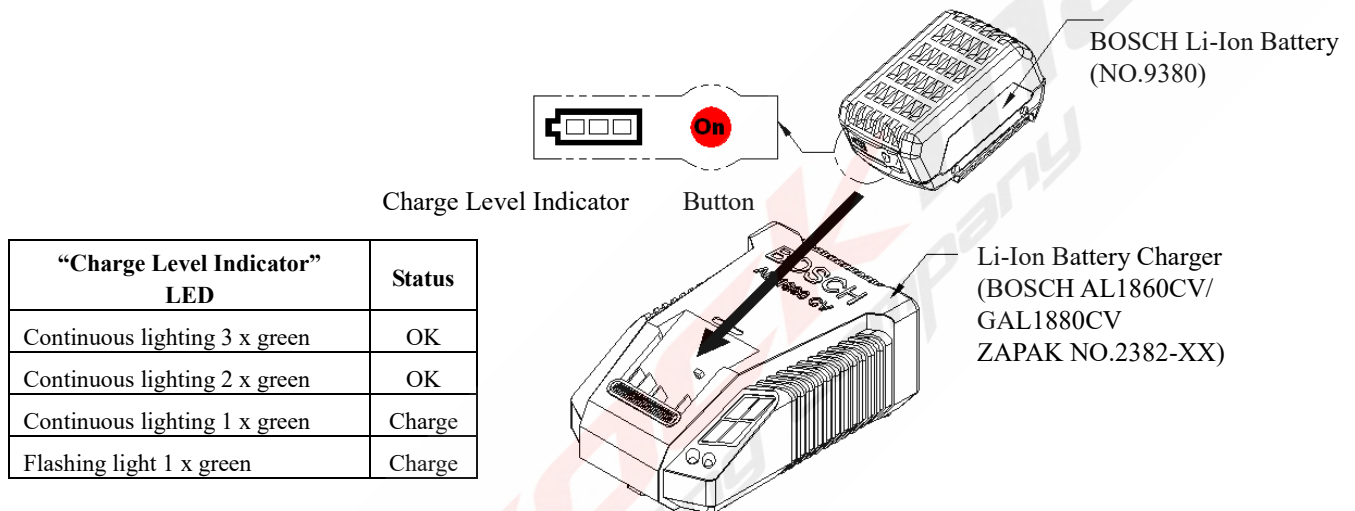

FIGURE 4. Illustration of Inserting Battery onto Charger
Refer to FIGURE 4 to insert the battery into charger (Please refer and follow the safety instruction and operation of the battery and charger user manual.)
- \* Each BOSCH Li-Ion battery (No. 9380) is equipped with Charge Level Indicator. Press button to check the status of charge level condition (capacity), as shown on Figure 4 (\*For safety reasons, it is only possible to check the charge condition when the tool is at a standstill.)